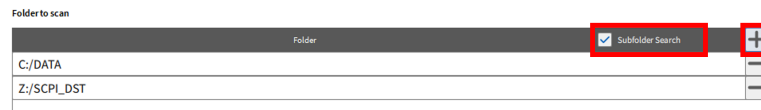

Fig. 3.17: Configure folder and optional subfolder to scan
8. The “*Configure...*” button enables to specify additional folders via to scan and whether subfolders are scanned for data files (see Fig. 3.17).